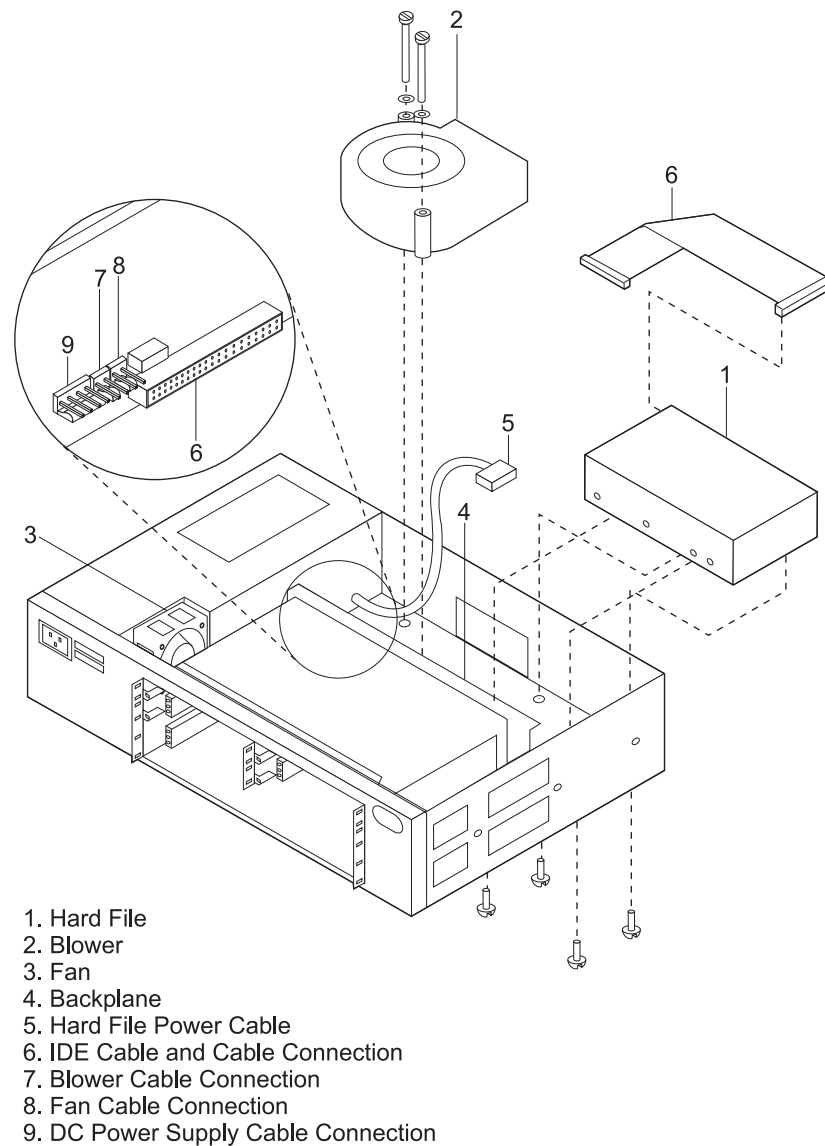

Figure 2-17. Model 4xx Chassis with a Hard Drive
5. Connect the hard drive IDE (flat ribbon) cable to the backplane. Route the hard drive cable so it lies flat under the blower. (See Figure 2-17.)